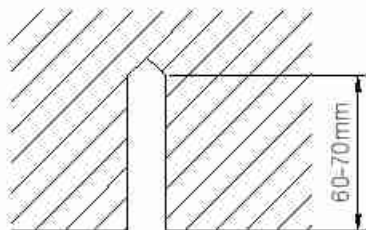

Fig.5
- (1) Install the bolts to the ceiling at a place strong enough to hang the unit. Mark the bolt positions from the installation template. With a concrete drill, drill for 12.7mm (1/2") diameter holes. (Fig. 5)